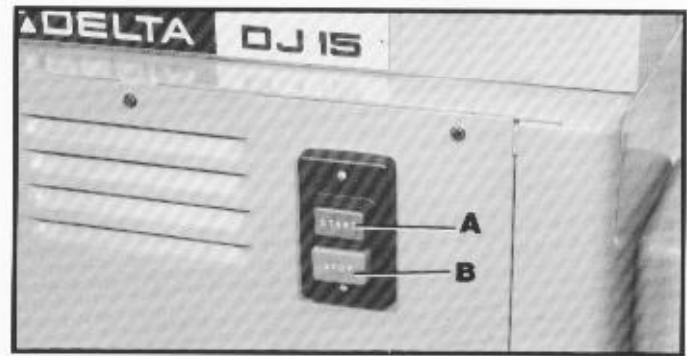

Fig. 15
The start/stop switch is mounted on the jointer stand panel for easy accessibility. To start the machine, simply press the start button (A) Fig. 15; to stop the machine, press the stop button (B).